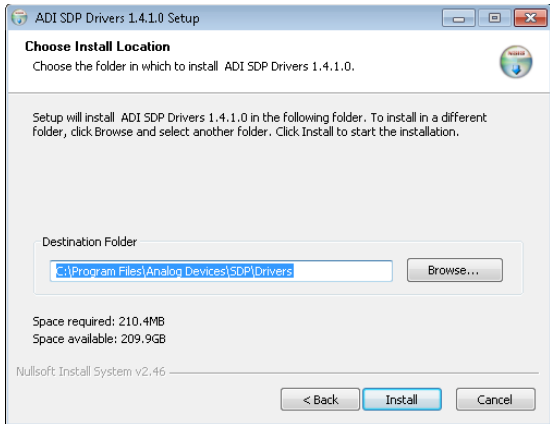

Figure 7. Choose Install Location Window
2. Select a destination folder for the SDP drivers and click Install (see Figure 7).